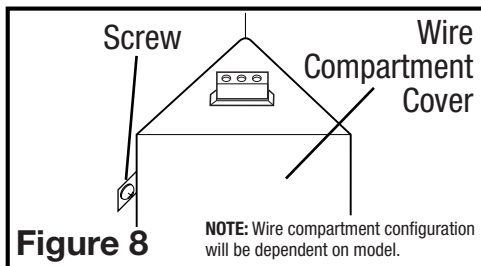

Figure 8 **NOTE:** Wire compartment configuration will be dependent on model.
- 1b. **Internal Wire Compartment:** Remove the screws holding the blower assembly in place and lift assembly out of housing (Figure 7). Remove the wire compartment cover screw and place the cover in a secure place (Figure 8).